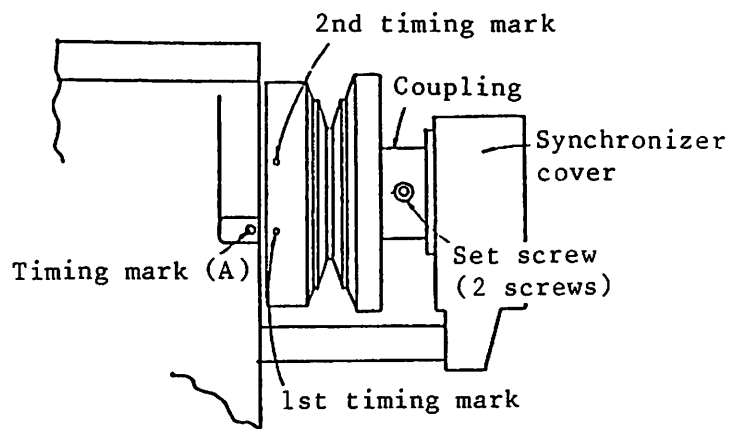

Fig. 10.17
- (1) Remove the synchronizer cover by pulling it toward the cable side (see Fig. 10.17).
- (2) The first synchronizer disc (red) is for DOWN position detection, and the second (black) is for UP position detection.
- (3) The matching mark on the first disc (red) should be at 115° on the scale of second disc (black).